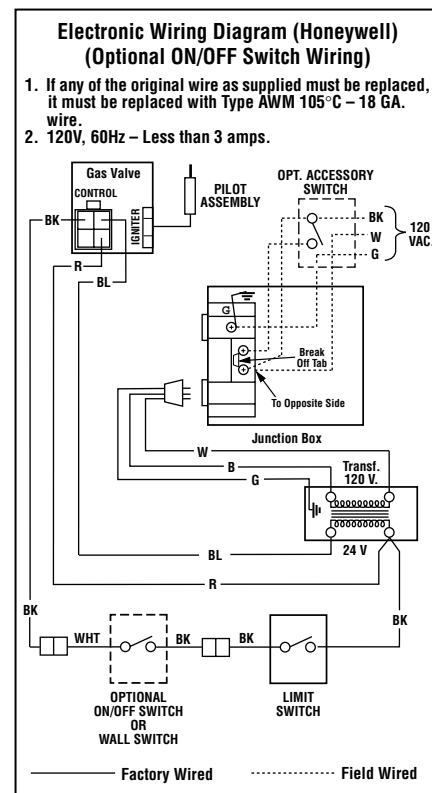

Figure 14
1. Route a 3-wire 120V 60Hz power supply to the appliance junction box and ground. (**See Figures 14 and 16**).
2. Locate and install a low voltage (24V) wall switch (not supplied) in the desired location. Connect the low voltage wire to this switch (**see Figure 14**).
IMPORTANT: Ground lead must be connected to the green screw located on the outlet box. See Figure 14. Failure to do so will result in a potential safety hazard. The appliance must be electrically grounded in accordance with local codes or, in the absence of local codes, the National Electrical Code, ANSI/NFPA 70- (latest edition). (In Canada, the current CSA C22-1 Canadian Electrical Code.)